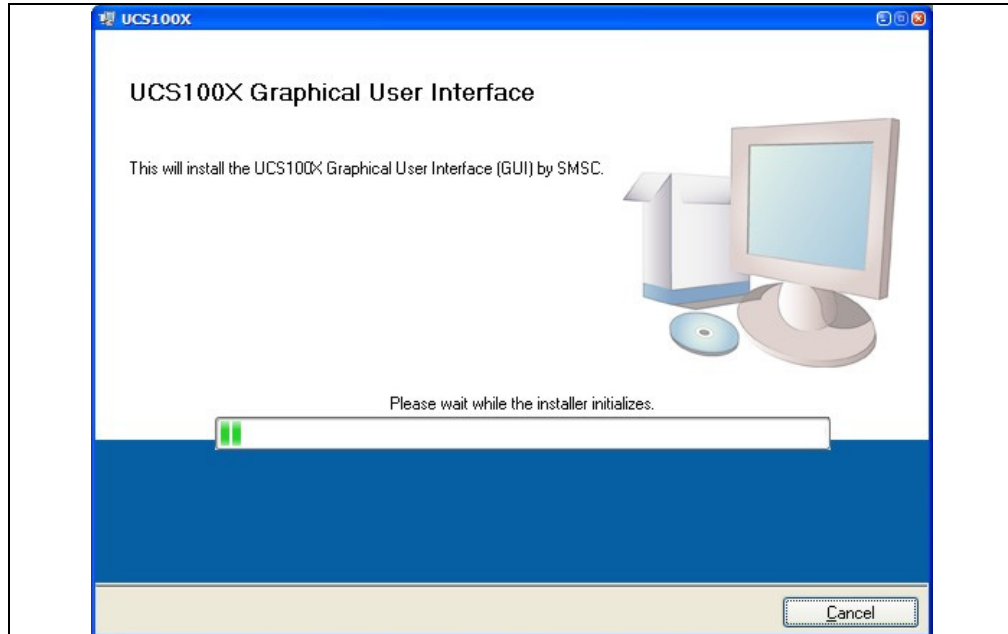

FIGURE 2-6: Software Installation – Initialize Window.
1. Download the software archive from the board's web page, unzip it and double-click the `Setup.exe`, to start the installation. Figure 2-6 shows the initial installation screen, which displays briefly as the setup program loads.